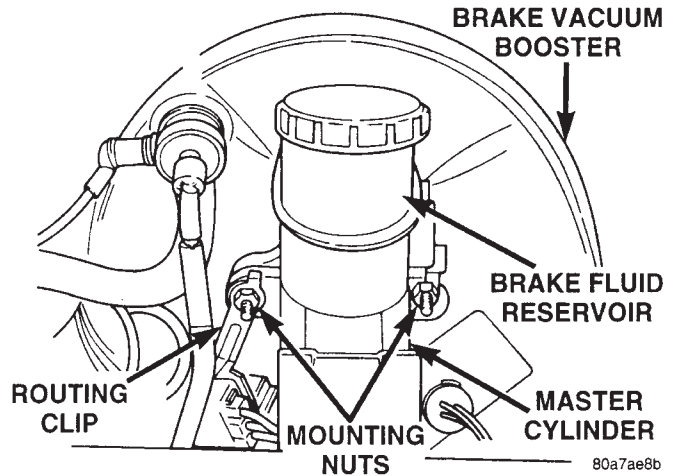

Fig. 84 Master Cylinder Mounting To Vacuum Booster
(3) Using Mopar, Brake Parts Cleaner or an equivalent, clean the area where the master cylinder attaches to the vacuum booster.
(4) Remove the 2 nuts (Fig. 84) attaching the master cylinder to the vacuum booster.
(5) Remove the routing clip and chassis brake tubes (Fig. 84) (as an assembly) from the mounting stud for the master cylinder.
(6) Slide the master cylinder straight off its mounting studs on the vacuum booster.
- (2) Install the routing clip and chassis brake tubes (Fig. 84) on the inboard mounting stud for the master cylinder.
- (3) Install the 2 master cylinder to power brake vacuum booster mounting nuts (Fig. 84). Tighten both nuts to a torque of 28 N·m (250 in. lbs.).